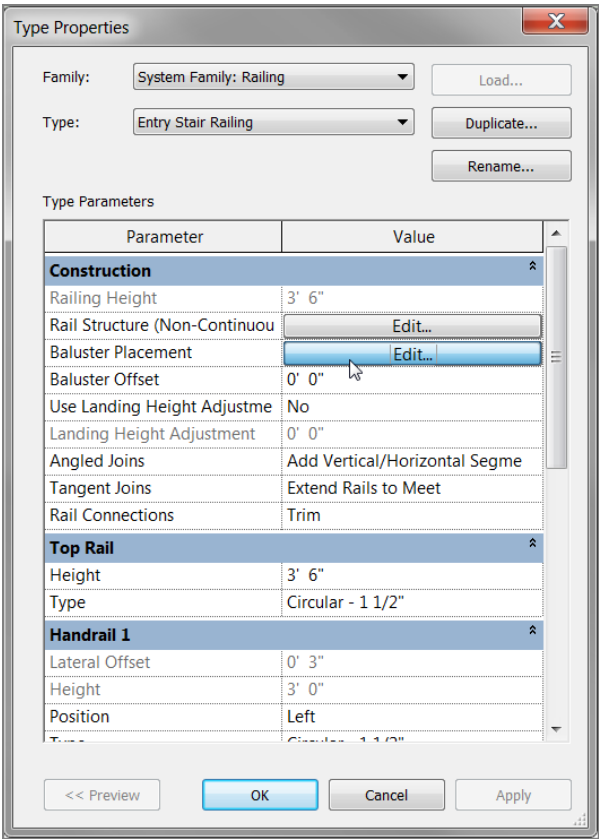

FIGURE 10.17: Click Edit next to Baluster Placement.
6. In the Baluster Placement row, click the Edit button, as shown in Figure 10.17.